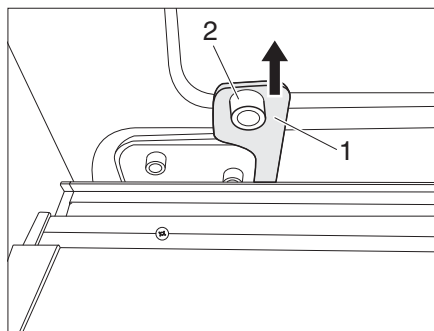

Fig. 24 Emergency unlocking mechanism
- ▷ For the emergency unlocking mechanism, always hook the emergency unlocking lever (Fig. 24,1) directly onto the positioning pin. Otherwise the vehicle may be damaged by the carrier arm swivelling downwards.
- Pull the emergency unlocking mechanism (Fig. 24,1) firmly upwards and hook it directly onto the positioning pin (Fig. 24, 2). The sliding door is now disconnected and can only be opened and closed manually.